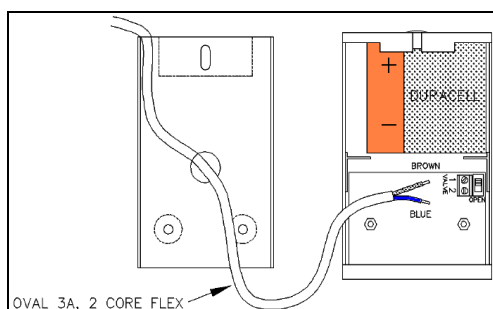

Fig 3 (battery powered model)
5. Connect 2-core cable between the solenoid valve connector and the terminals on the circuit board in the Control Box. **The unit is polarity sensitive, so ensure that the brown wire is connected to terminal 1 and the blue wire to terminal 2, both in the solenoid connector and on the circuit board.** Leave a small loop inside the control box so that the lid can be detached from the mounting plate. Alternatively, the cable can be fed through the top cable gland. (See figs 3 (battery) and 4 (mains) below).